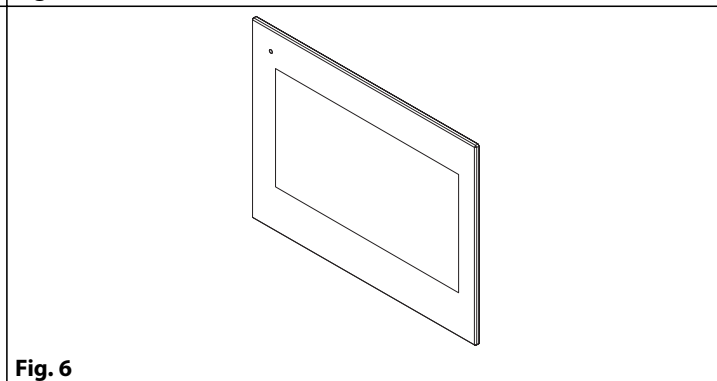

Fig. 6
5. The video intercom is installed (**Fig. 6**), power up the system and check that it works correctly.